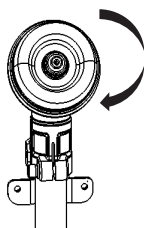

Fig. 2
1. Disassemble the nut(clockwise), dust cover, and support plate from gear case; (Fig. 2&3).